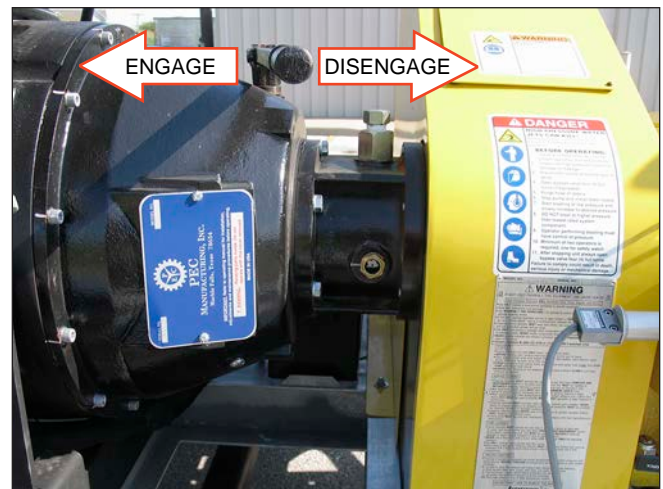

Figure 31: Clutch Engagement.
9. Engage the clutch by firmly pulling or pushing the lever towards the engine. Only engage the clutch with the engine at idle speed (Figure 31).